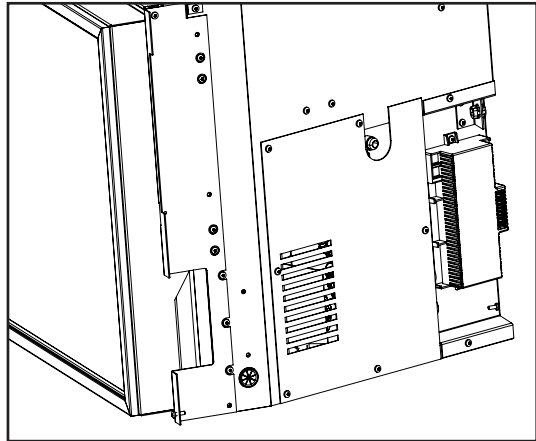

Figure 36: Gas connection location
- A 3/8" 45° flared fitting and flex connector are supplied with the unit (see Figures 36 and 37). Consult the local authorities for local codes or use the CAN/CGA B149 (1 or 2) installation code in Canada. In the US, gas installations follow either local codes or the current edition of the National Fuel Gas Code ANSI Z223.1.